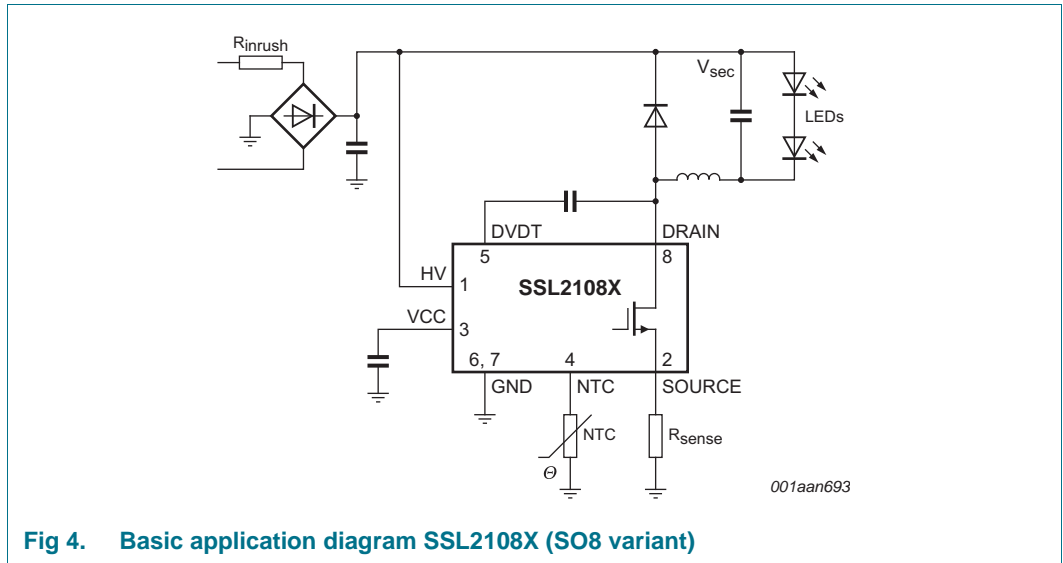
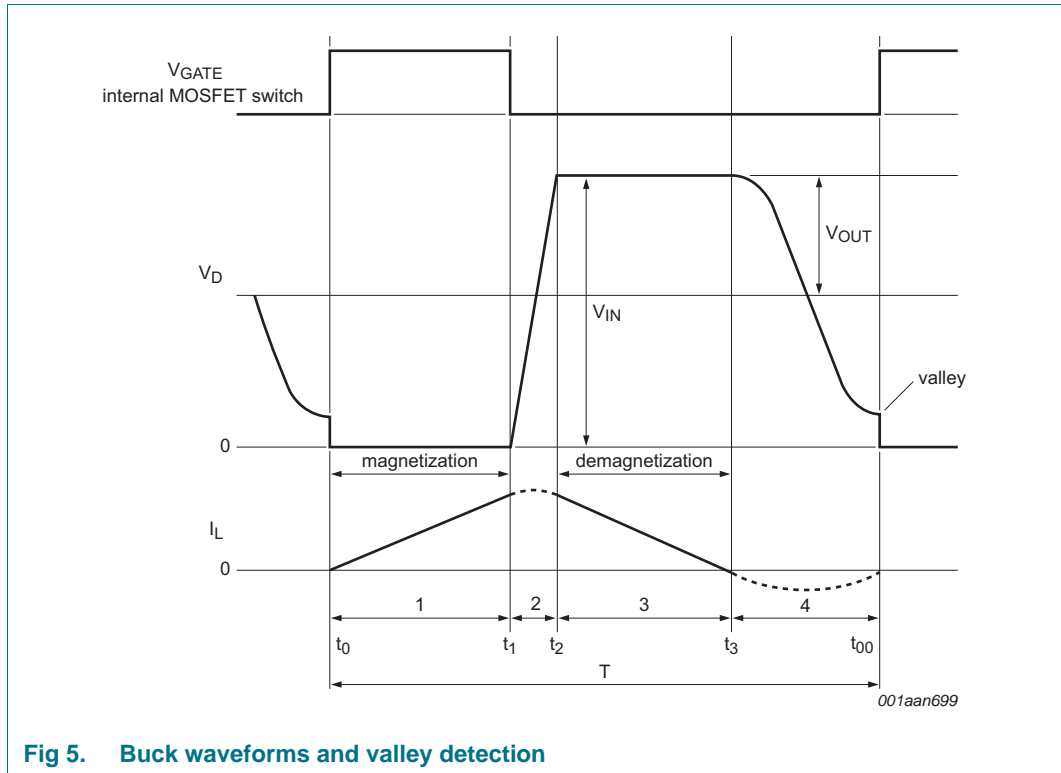

Fig 4. Basic application diagram SSL2108X (SO8 variant)
Fig 5. Buck waveforms and valley detection
- Low component count (see Figure 4) LED driver solution:
- SSL2108X products are intended for compact LED lamp ballasts with accurate fixed current output for single mains input voltages. Mains input voltages include 100 V, 120 V and 230 V (AC). The output signal can be modulated using a PWM signal.
The converter in the SSL2108X is a Boundary Conduction Mode (BCM), peak current controlled system. For the basic application diagram see Figure 4, for the waveforms see Figure 5. This converter type operates at the boundary between continuous and discontinuous mode. Energy is stored in inductor L each period that the switch is on. The inductor current I_L is zero when the internal MOSFET switch is switched on. Thereafter, the amplitude of the current build-up in L is proportional to $V_{IN} - V_{OUT}$ and the time that the internal MOSFET switch is on. When the internal MOSFET switch is switched off, the current continues to flow through the freewheel diode and the output capacitor. The current then falls at a rate proportional to the value of V_{OUT} . The LED current I_{LED} is almost equal to half the peak switch current. A new cycle is started, as soon as the inductor current I_L is zero.
A new cycle is started when the primary switch is switched on see Figure 5. Following time t_1 , when the peak current is detected on the SOURCE pin, the switch is turned off and the secondary stroke starts t_3 . When the secondary stroke is completed with the coil current at t_3 equaling zero, the drain voltage starts to oscillate at approximately $V_{IN} - V_{OUT}$ level. The amplitude equals V_{OUT} . A special feature, called valley detection is an integrated part of the SSL2108X circuitry. Dedicated built-in circuitry connected to the DRAIN pin, senses when the voltage on the drain of the switch has reached its lowest value. The next cycle is then started and as a result the capacitive switching losses are reduced. A valley is detected and accepted if both the frequency of the oscillations and the voltage swing are within the range specified (f_{ring} and $\Delta V_{vrec(min)}$) for detection. If a valid valley is not detected, the secondary stroke is continued until the maximum off-time ($t_{off(high)}$) is reached, then the next cycle is started.